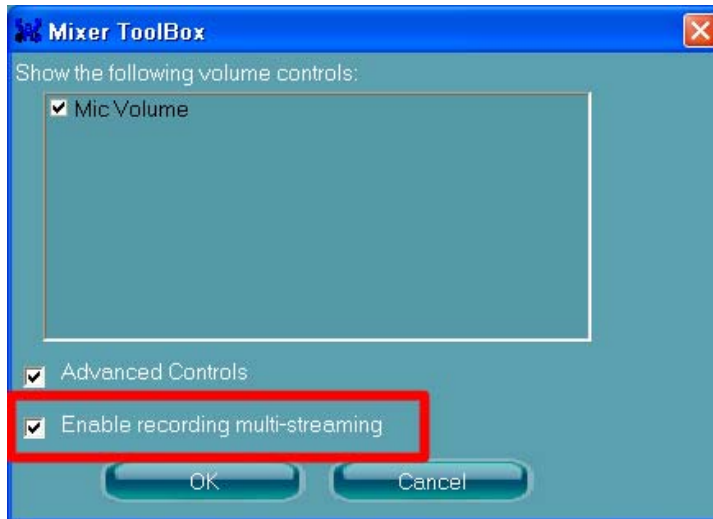

Figure B-4: Mixer Toolbox Screen
Step 6: The following screen appears (**Figure B-4**). Check the **Enable recording multi-streaming** box, and then click **OK**.